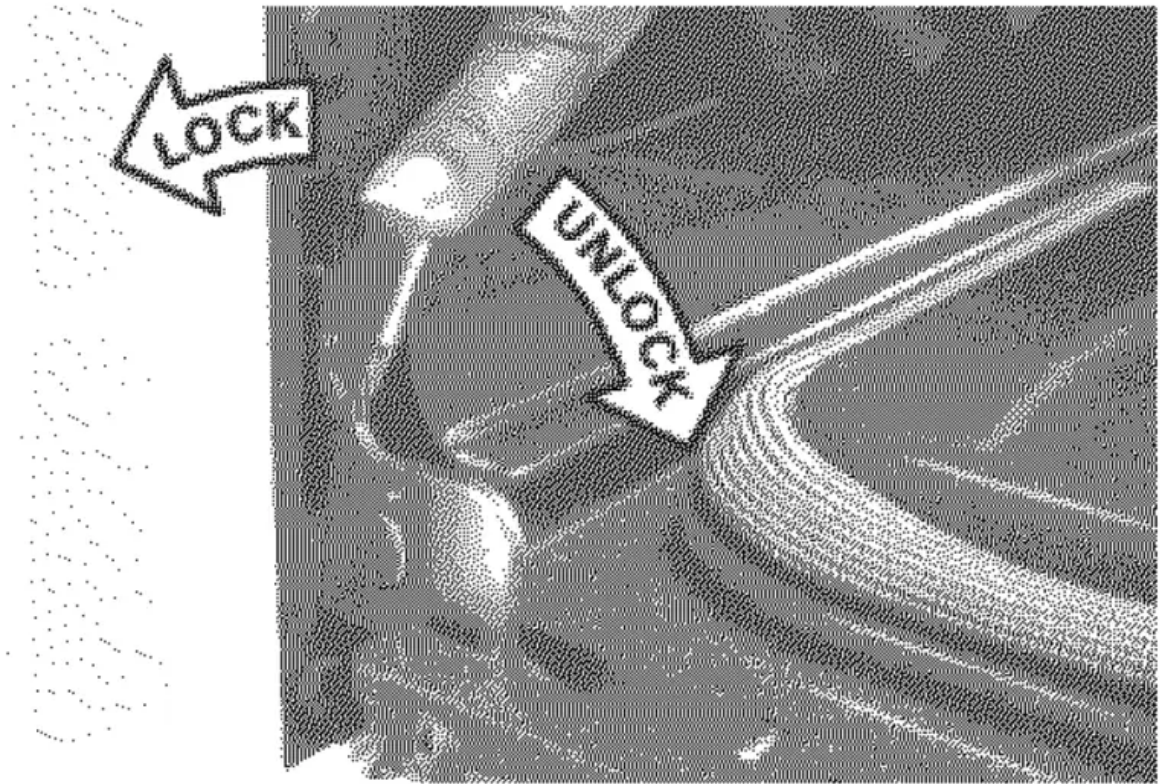

Fig. 2
2. Pull the door hinge locks on both left and right door hinges down from the oven frame completely towards the oven door (See Fig. 2). A tool such as a small flat-blade screw driver maybe required.
4. Push the door hinge locks up towards and into the oven frame on both left and right oven door hinges (See Fig. 2) to the locked position.